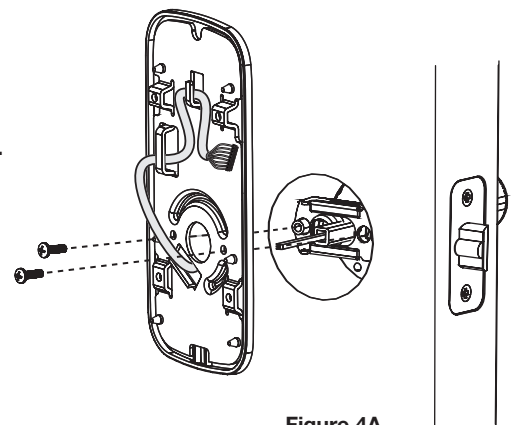

Figure 4A
4. Holding the outside escutcheon flush to the door, position the inside mounting plate by routing the cable/connector through the mounting plate's 1/2" rectangular hole below center hole and then route through left upper slot, then behind center rib (Fig. 4A).
5. Secure both assemblies using (2) M4 x 25mm pan head machine screws (Fig. 4A).